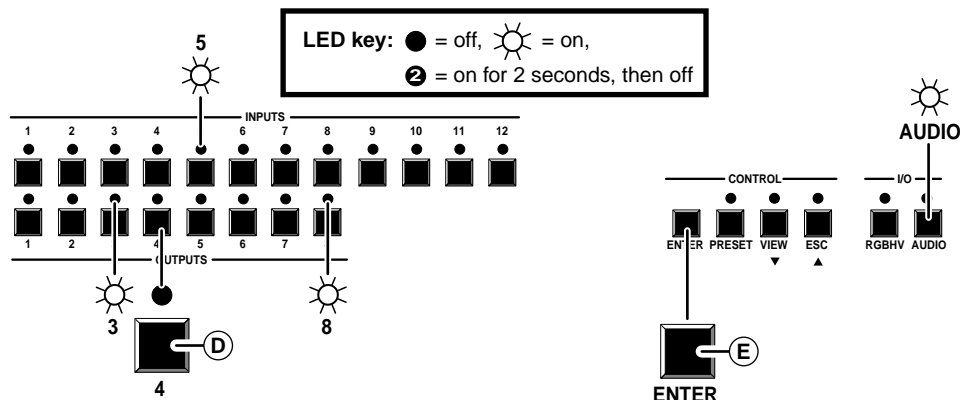

Figure 22 — Example 3d: Removing an audio tie
- (D) Press and release the output 4 button (figure 22). The output 4 LED turns off, while the output 3 and output 8 LEDs remain lit.